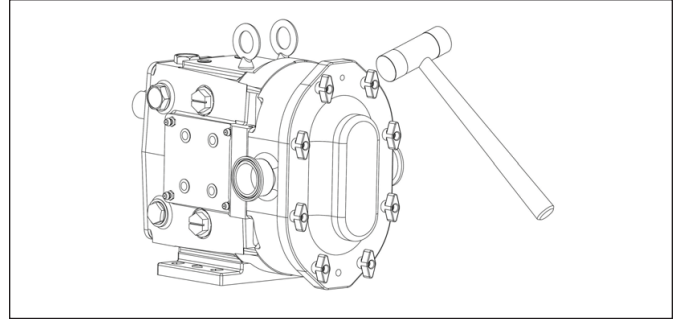

Figure 23. Removing Cover Wing Nuts
1. Start by removing the cover wing nuts using a soft mallet to loosen (*Figure 23*). During disassembly place all parts on a clean, protected surface with finished surfaces and seal faces facing up.